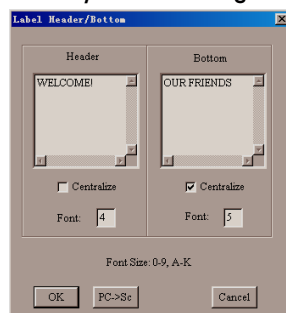

Fig. 6-20
- Here will show header footnote dialog box as fig. 6-20.